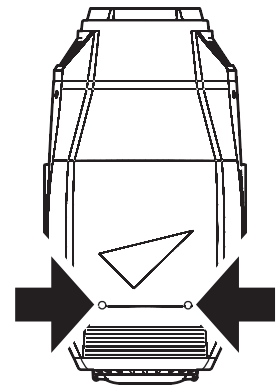

Figure 19: Head cover screws
2. Remove both head covers by loosening their quarter-turn retaining screws (see Figure 19).
3. Remove the two quarter-turn retaining screws (see Figure 19) from the top cover and lift it away from the head. Let the cover hang on its safety wire or unclip the safety wire and remove the cover completely.